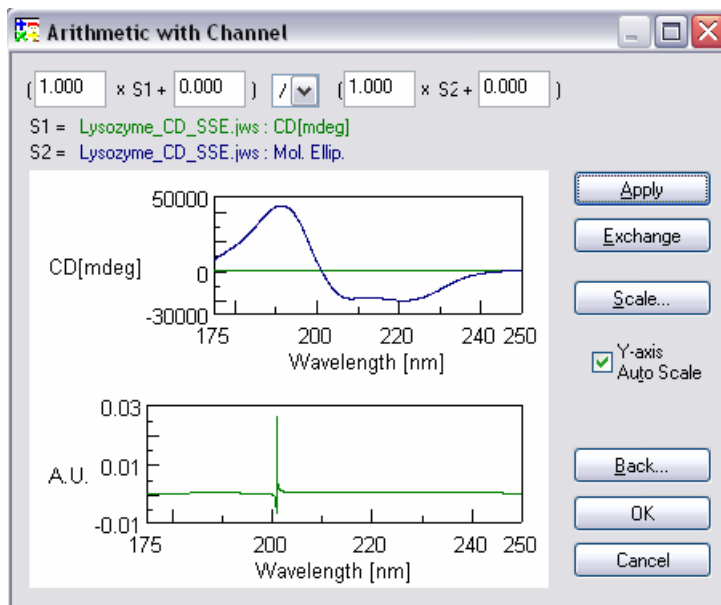

Figure 7.25 [Arithmetic with Channel] dialog box
- [Exchange]: Exchanges the contents of S1 and S2. Click on the <Exchange> button of Fig. 7.25, for example, the contents S1 and S2 becomes Lysozyme\_CD\_SSE.jws : Mol. Ellip. and Lysozyme\_CD\_SSE.jws : CD[mdeg], respectively.